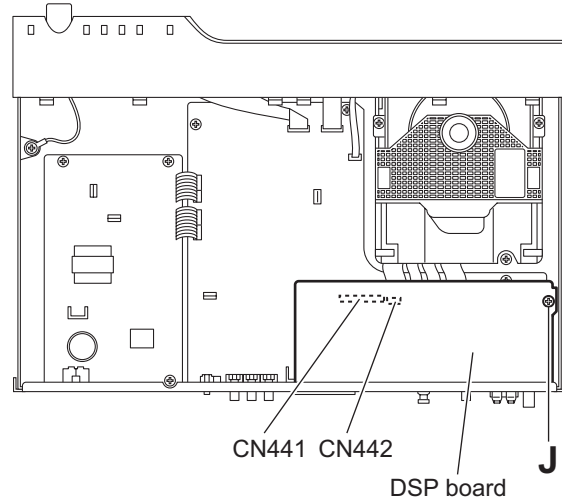

Fig.8
- (2) From the top side of the main body, remove the screw **J** attaching the DSP board to the main body. (See Fig.8)
- (3) Take out the DSP board, and disconnect the card wires from the connectors CN441 and CN442 on the DSP board. (See Fig.8)